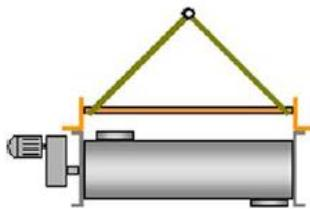

Fig. 5.1
- ▶ Only lift machine with assembling devices supplied (Fig. 5.1) !
- ▶ Only transport machine separately (Fig. 5.1, 5.3) !